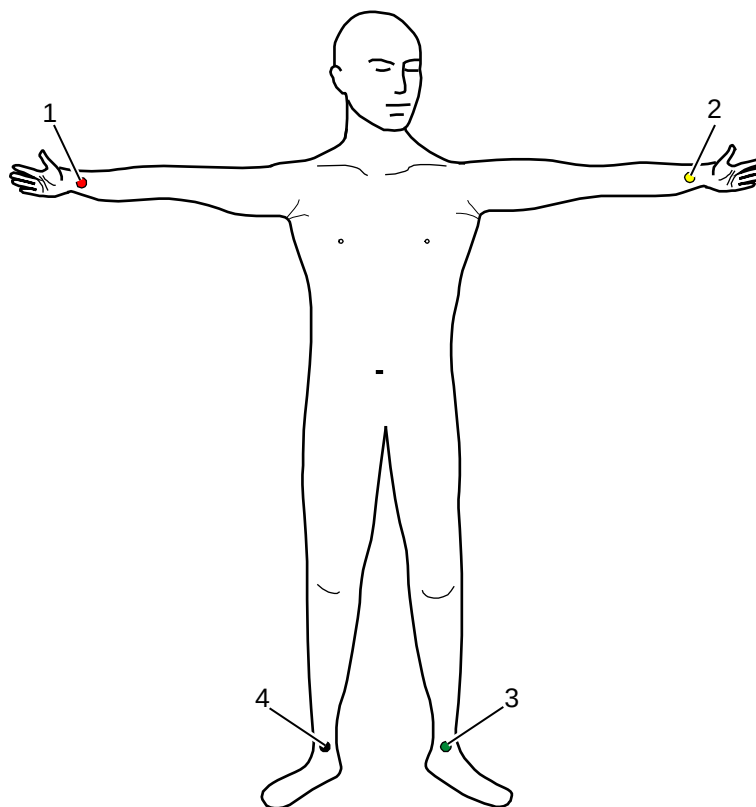

Fig. 6-7 Diagnostic ECG, applying the ECG electrodes (1)
- Red ECG electrode: right arm (Fig. 6-7, item 1)
- Yellow ECG electrode: left arm (Fig. 6-7, item 2)
- Green ECG electrode: left leg (Fig. 6-7, item 3)
- Black ECG electrode: right leg (Fig. 6-7, item 4)